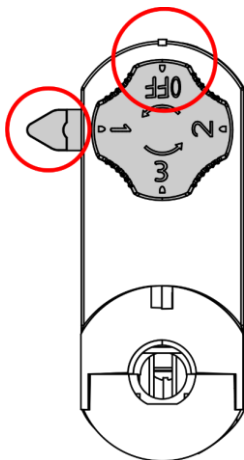

Fig. 06
- 02) Make sure that the **circuit selector (03)** is in OFF position and the **track lock (02)** is in unlocked position, as shown in Fig. 06.